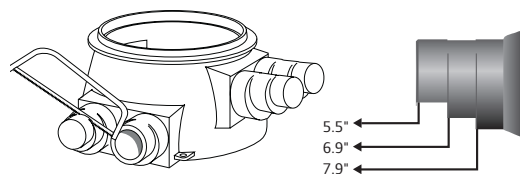

Figure 4-37: Cut the Outlet
2. Using a hand saw, cut away end of the outlet suitable for the outside diameter of the Ecoflex jacket — only cut what is necessary to ensure a full-sized opening — typically $\frac{1}{2}$ " (see **Figure 4-37**).